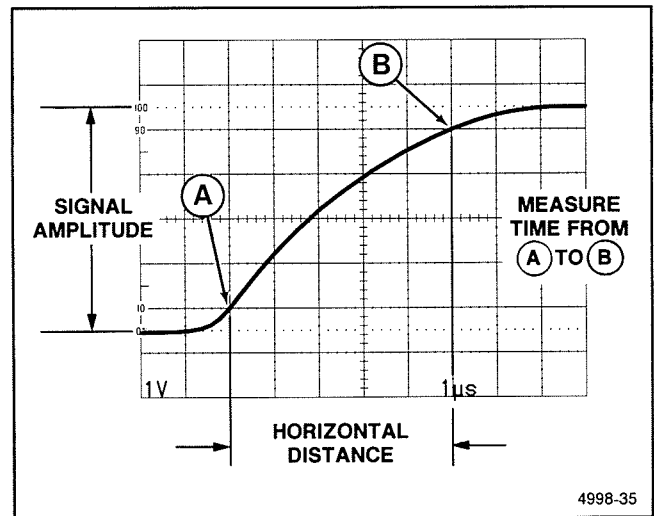

Figure 6-22. Rise time.
Rise-time measurements use the same methods as time duration, except that the measurements are made between the 10% and 90% points on the leading edge of the waveform (see Figure 6-22). Fall time is measured between the 90% and 10% points on the trailing edge of the waveform.
4. Adjust vertical positioning so that the zero reference of the waveform touches the 0% graticule line and the top of the waveform touches the 100% graticule line (see Figure 6-22).
6. Horizontally position the display so the 10% point on the waveform intersects the second vertical graticule line (see Figure 6-22, Point A).
**EXAMPLE:** The horizontal distance between the 10% and 90% points is 5 divisions (see Figure 6-22), and the A SEC/DIV switch is set to 1  $\mu\text{s}$ . The X10 magnifier knob is pushed in (1X magnification).